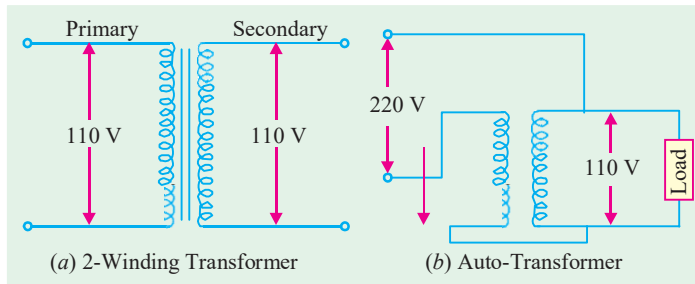

Fig. 32.64
**Solution.** Fig. 32.64 (a) shows the normal connection for a 2-winding transformer. In Fig. 32.64 (b) the same unit has been connected as an auto transformer. Since the two windings are connected in series, voltage across each is 110 V.